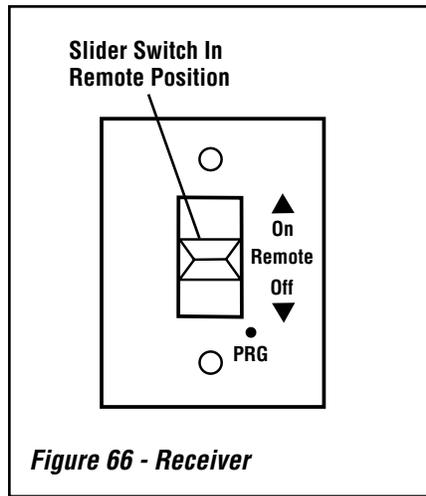

Figure 66 - Receiver
Place the three position slider switch in the "Remote" position (see **Figure 66, next page**). Using the end of a paper clip, or other similar object, insert the end of the paper clip into the hole marked "PRG" on the Receiver front cover. The Receiver will "beep" three (3) times to indicate that it is ready to synchronize with a Transmitter.